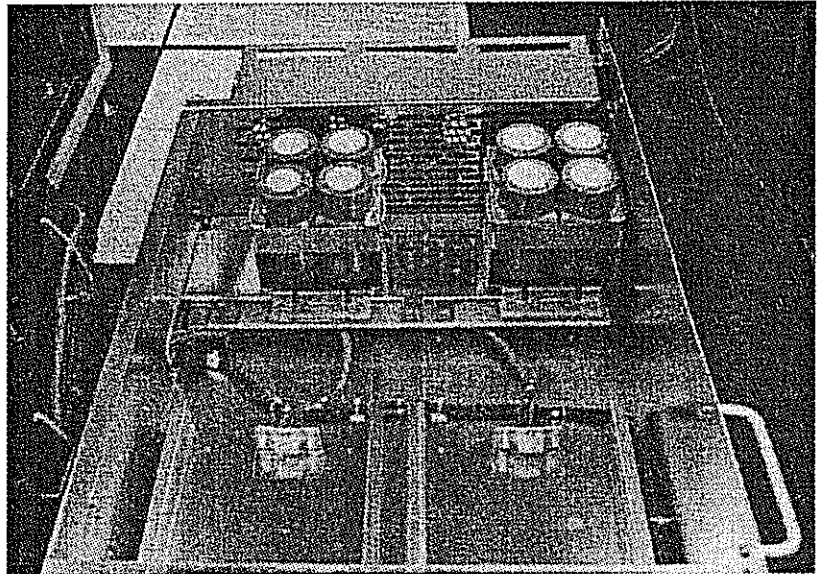

Figure 7-68. Filter Capacitors
3. Remove the eight hex screws that attach the filter capacitors to the CPU card cage. Refer to Figure 7-68.